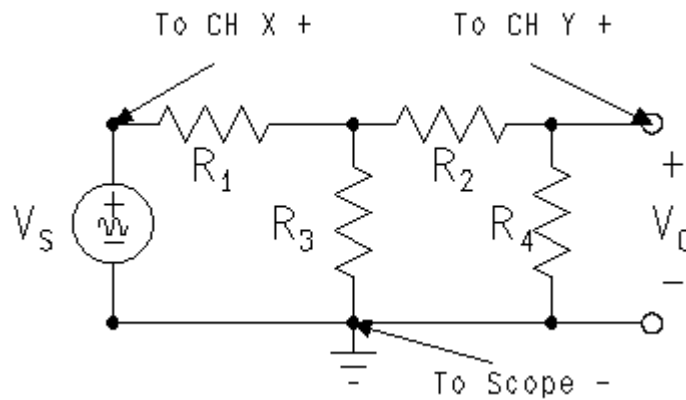

Figure 5.
1. Set up the circuit in Figure 5. Use the function generator for V_S .
2. Connect the scope as indicated in Figure 5.
The circuit in Figure 5. shows how to connect the oscilloscope to easily verify linearity.